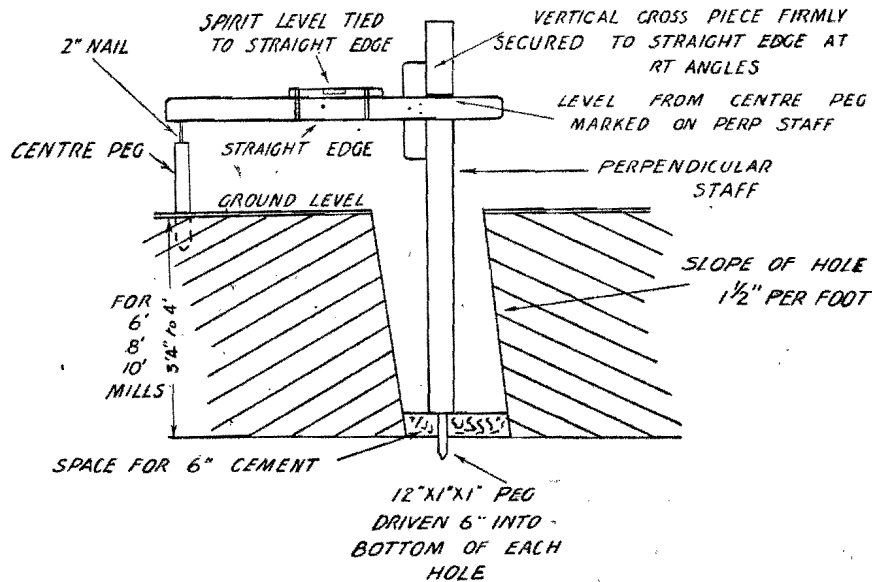

Fig. 2.
**Figure 2** illustrates the method of obtaining level concrete foundations. Drive a wooden peg six inches into the bottom of each hole, leaving six inches above the bottom = peg twelve inches long. Then hold upright a length of timber 4 ft. to 5 ft. long (perpendicular staff) with the bottom end resting on the top of one of these pegs. Rest one end of a straight edge with a spirit level firmly attached in the centre, on the same centre peg that was used to determine the position of the holes. The straight edge to have a short vertical crosspiece securely fixed to form a cross square, which is to be held firmly against the perpendicular staff. When the straight edge is perfectly level as indicated by the spirit level and square with the perpendicular staff, mark the staff as a guide to levelling the remaining holes.